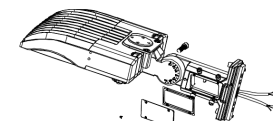

Fig. 7
1. Remove the bracket mounting screws on the fixture, run the wires through the bracket (Fig. 7).